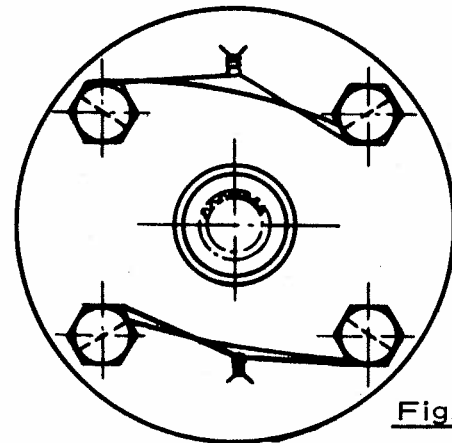

Fig. 1
Attach input flange (52) with four 5/16" dia. UNF screws with drilled heads, securing the screws with 20 SWG locking wire as shown (See figure 1 on attached drawing).